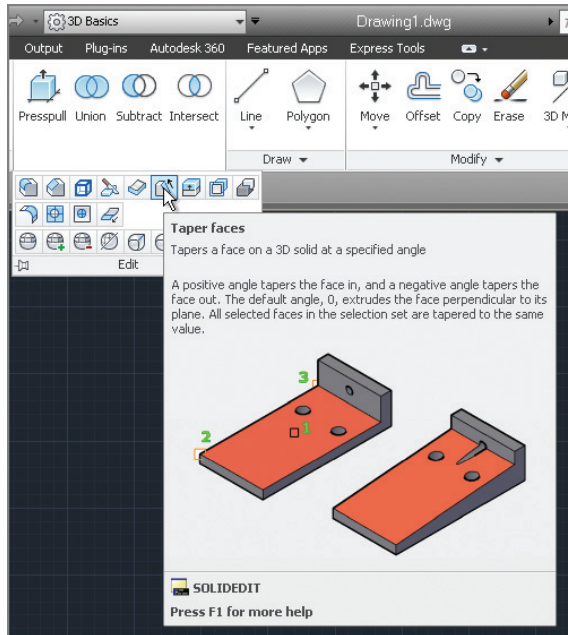

FIGURE 1.11 Tooltip and illustration
- Click the Edit button at the bottom of the Edit panel to reveal additional tools. Hover the mouse over one of the tools to display a tooltip that identifies the tool and describes its function. Holding the cursor still a while longer reveals either a drawing or a video (without audio) that visually demonstrates what the tool does (see Figure 1.11).
- Observe that the bottom of the tooltip shown in Figure 1.11 reveals the command name (SOLIDEDIT in this case). The ribbon, menus, toolbars, and palettes are all graphical alternatives to typing commands.